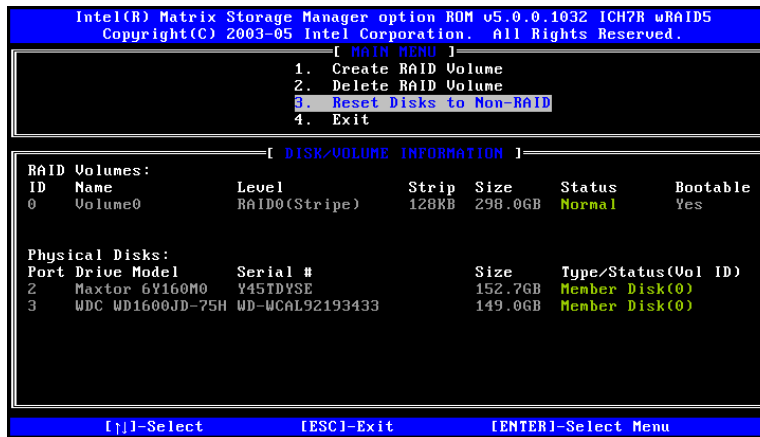

Figure F-12: Reset Disk to Non-RAID Menu
Step 1: Select “Reset Disk to Non-RAID.” Use the arrow keys to highlight Reset Disk to Non-RAID and press ENTER. See Figure F-12.